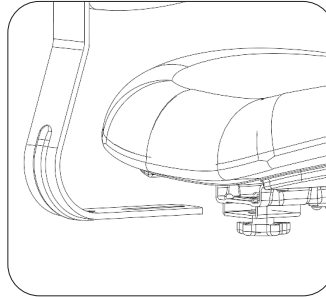

Figure 6
1. Remove the hardware: Take off the knob, washer and star washer from the control plate (Figure 6)